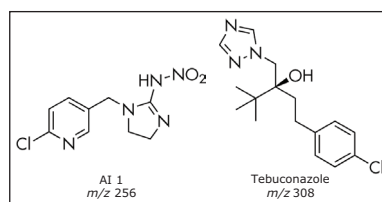

Figure 1. Structures and m/z for AI 1 and tebuconazole.
In this application note, we present the analysis of a commercially available pesticide formulation which contained two active ingredients (AI): an insecticide AI 1, and tebuconazole, a triazole fungicide, AI 2 (Figure 1). The triazole fungicides are a commonly used group of pesticides due to their potent activity against a broad spectrum of crop diseases.⁵ The analysis of the formulation employed UV and mass detection and a dual-flow path liquid chromatography system capable of emulating HPLC or UHPLC separations.⁶ The ACQUITY Arc System enables existing HPLC methods to be performed, while also allowing the choice of transitioning to a UHPLC method that employs sub-3 μm particles for higher efficiency chromatographic separations.